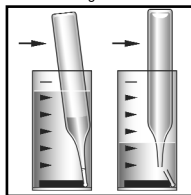

Figure 3
5. Place the CHEMet ampoule, tip first, into the sample cup. Snap the tip. The ampoule will fill leaving a bubble for mixing (fig. 3).